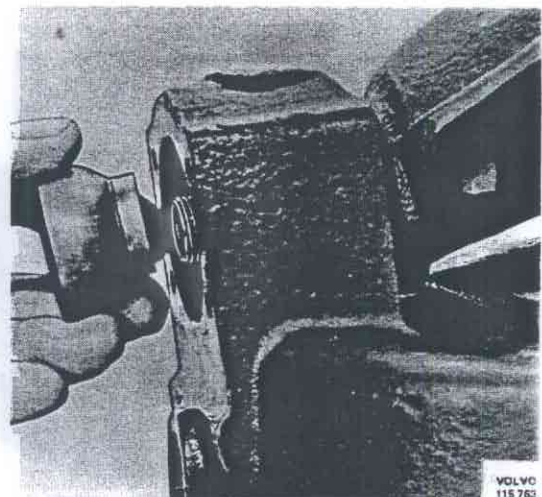

Fig. 46-94. Removing the ball shell
2. Remove the cover for the lower steering knuckle joint. Unscrew the nut for the bolt. Push in the bolt and remove the ball shell, Fig. 46-94.